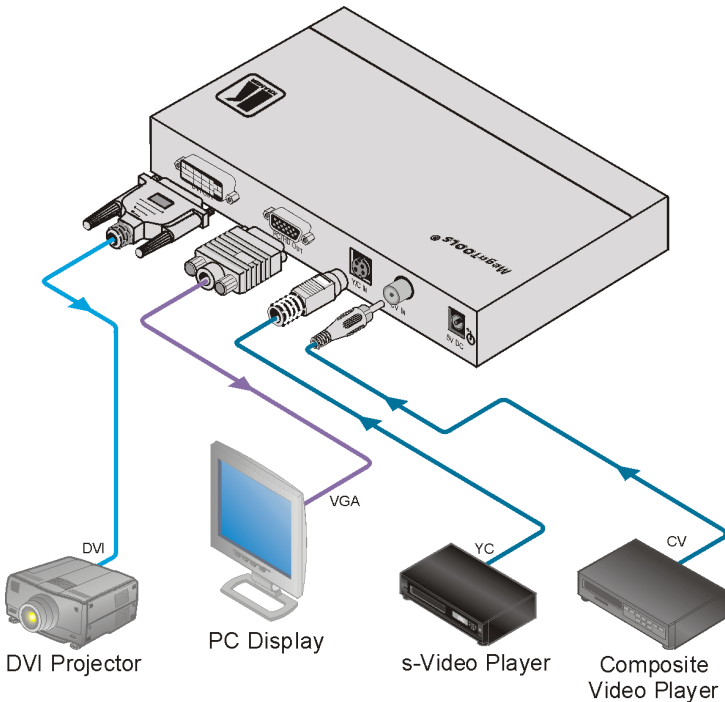

Figure 3: Connecting the VP-417 Video to PC/HD/DVI Scaler
To connect the VP-417, as illustrated in the example in Figure 3:
5. Connect the 5V DC power adapter to the power socket and to the mains electricity (not shown in Figure 3).